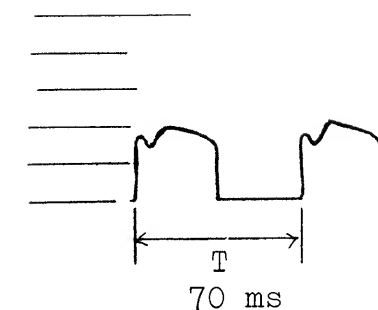

Fig. 1-2
- Adjust VR-11 for 70 ms/cycle on the screen (fig. 1-2).